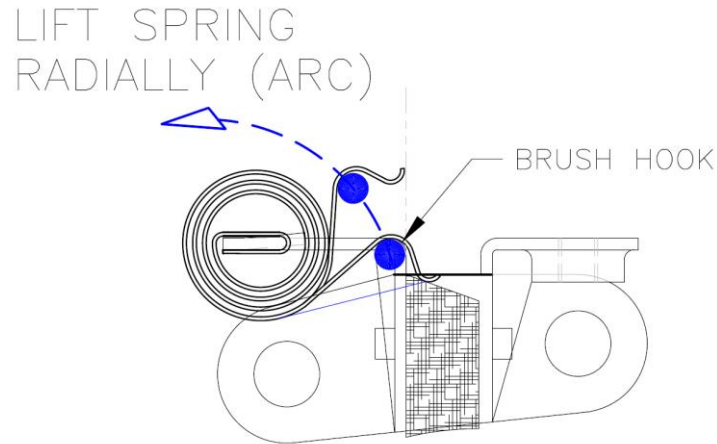

FIG. 8
in a radial movement (an arc). Do this for each (2) carbon slab. When the brush has been removed lightly lower the spring onto the holder. FIG. 8.